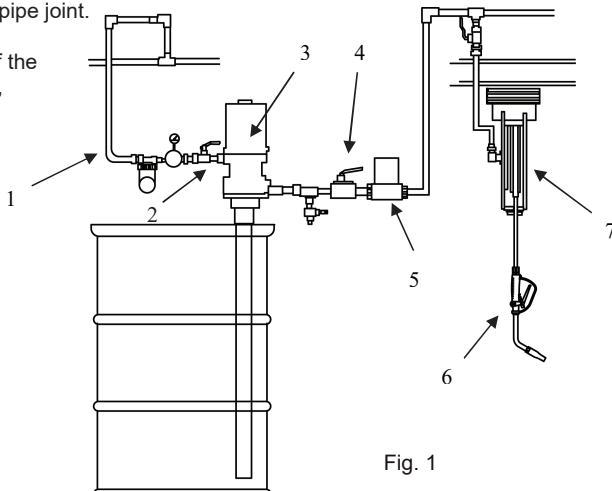

Fig. 1
Fig. 1 shows a typical installation.
The installation shown in Fig. 1 is only a guide. The components shown are typical; however, it is not a complete system design. Contact your distributor for assistance in designing a system to suit your particular needs.
2. Close the fluid shut-off valve (Item 4 in Fig.1)